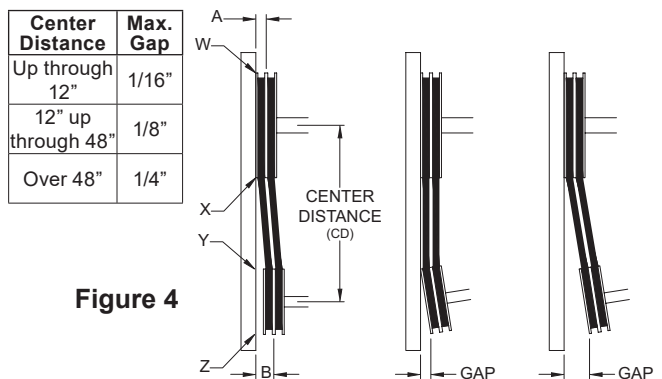
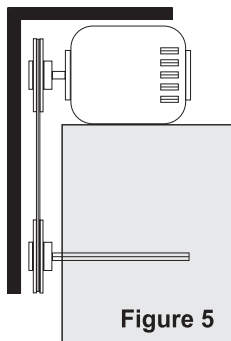

Figure 4
Figure 5
4. Ensure pulleys are properly aligned. Refer to Figure 4.
Figure 4 indicates where to measure the allowable gap for the drive alignment tolerance. All contact points (indicated by WXYZ) are to have a gap less than the tolerance shown in the table. When the pulleys are not the same width, the allowable gap must be adjusted by half of the difference in width (as shown in A & B of Figure 4). Figure 5 illustrates using a carpenter's square to adjust the position of the motor pulley until the belt is parallel to the longer leg of the square.